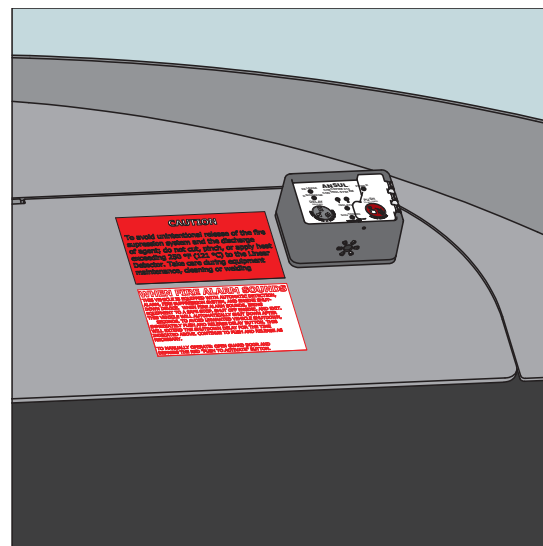
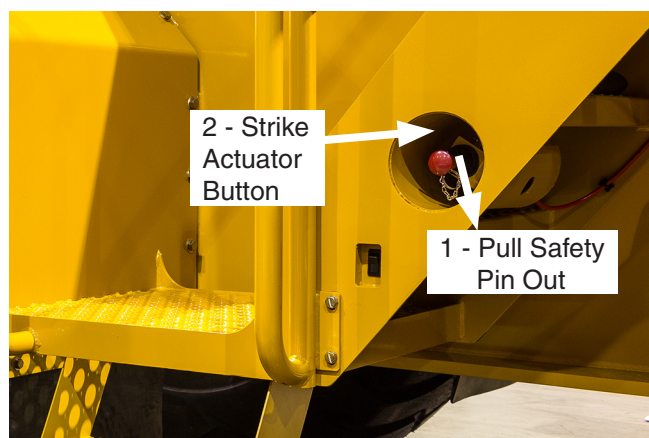
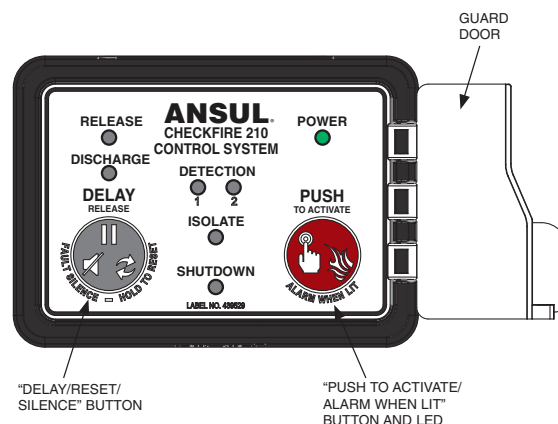

Figure 4-14-1 CHECKFIRE 210 ICM
Figure 4-14-2 Ground Level Manual Actuator
Figure 4-14-3 CHECKFIRE 210 ICM
Your Fire Suppression System consists of an automatic detection system, a manual actuator, and the CHECKFIRE 210 display module mounted on the right side of the dash (see Figure 4-14-1). A manual actuator is mounted on the chassis, at ground level, just to the right of the left side boarding stairs (See Figure 4-14-2).
The operator may activate the system by pressing the red button on the CHECKFIRE 210 ICM on the right side of the dash (see Figure 4-14-1 and Figure 4-14-3).
Ground personnel may activate the fire suppression system by pulling the pin and striking the button on the ground level actuator mounted on the chassis, at ground level, just to the right of the left side boarding stairs (See Figure 4-14-2).
3. To manually actuate the system, swing the guard door open, press the red “Push to Activate” button on the CHECKFIRE 210 ICM and then LEAVE THE VEHICLE (see Figure 4-14-3). Fire retardant will be released, the engine will shut down, and the batteries will be disconnected from the electrical system.